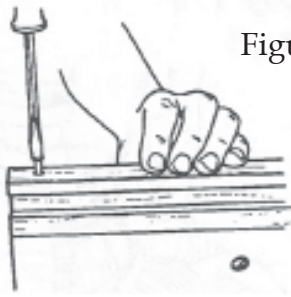

Figure D-66
- Attach each feather board holder to the shaper fence, see Figure D-66.